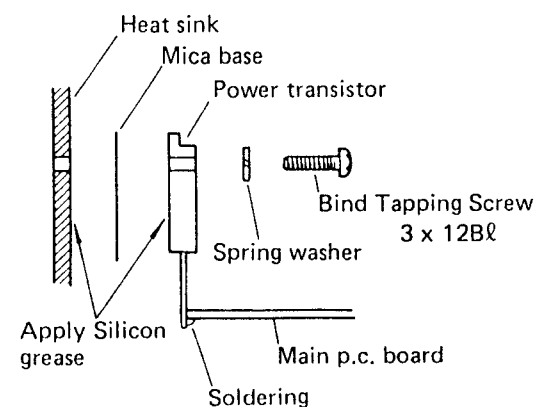
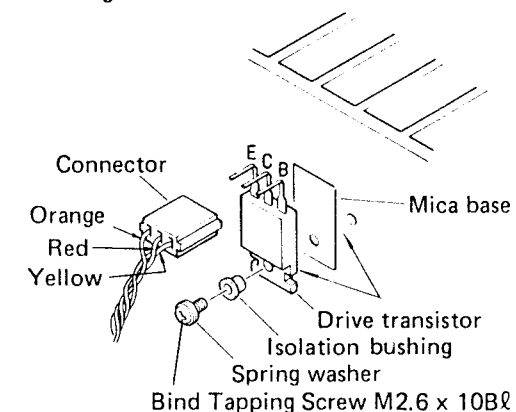

Fig. 11
Fig. 12
- * When mounting the power transistors, install a mica base between the heat sink and transistors so that the heat sink will not touch the case of the power transistor. Apply silicon grease to both sides of the mica base so that heat coupling between power transistors and the heat sink will be efficient. (Fig. 11).
- f. Replace the drive transistors as shown in Fig. 11. Use the isolation bushing as shown in Fig. 12 when mounting drive transistors.
- * Be careful about the direction (B,C,E) of the connector. (Fig. 12)